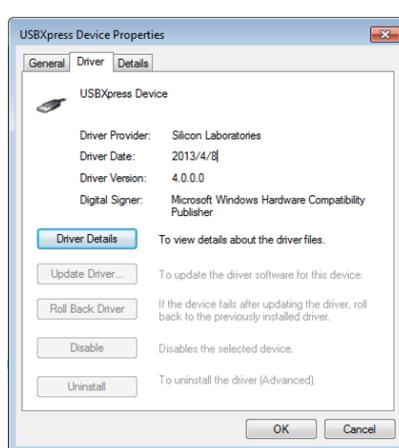

Figure 15: Correct Driver Version
*If the PC is running Windows 10, check the driver version of USBXpress Device. Windows 10 automatically installs the older USB driver, which is not compatible. The correct driver version is 4.0.0.0 (see Figure 15 on page 13).*